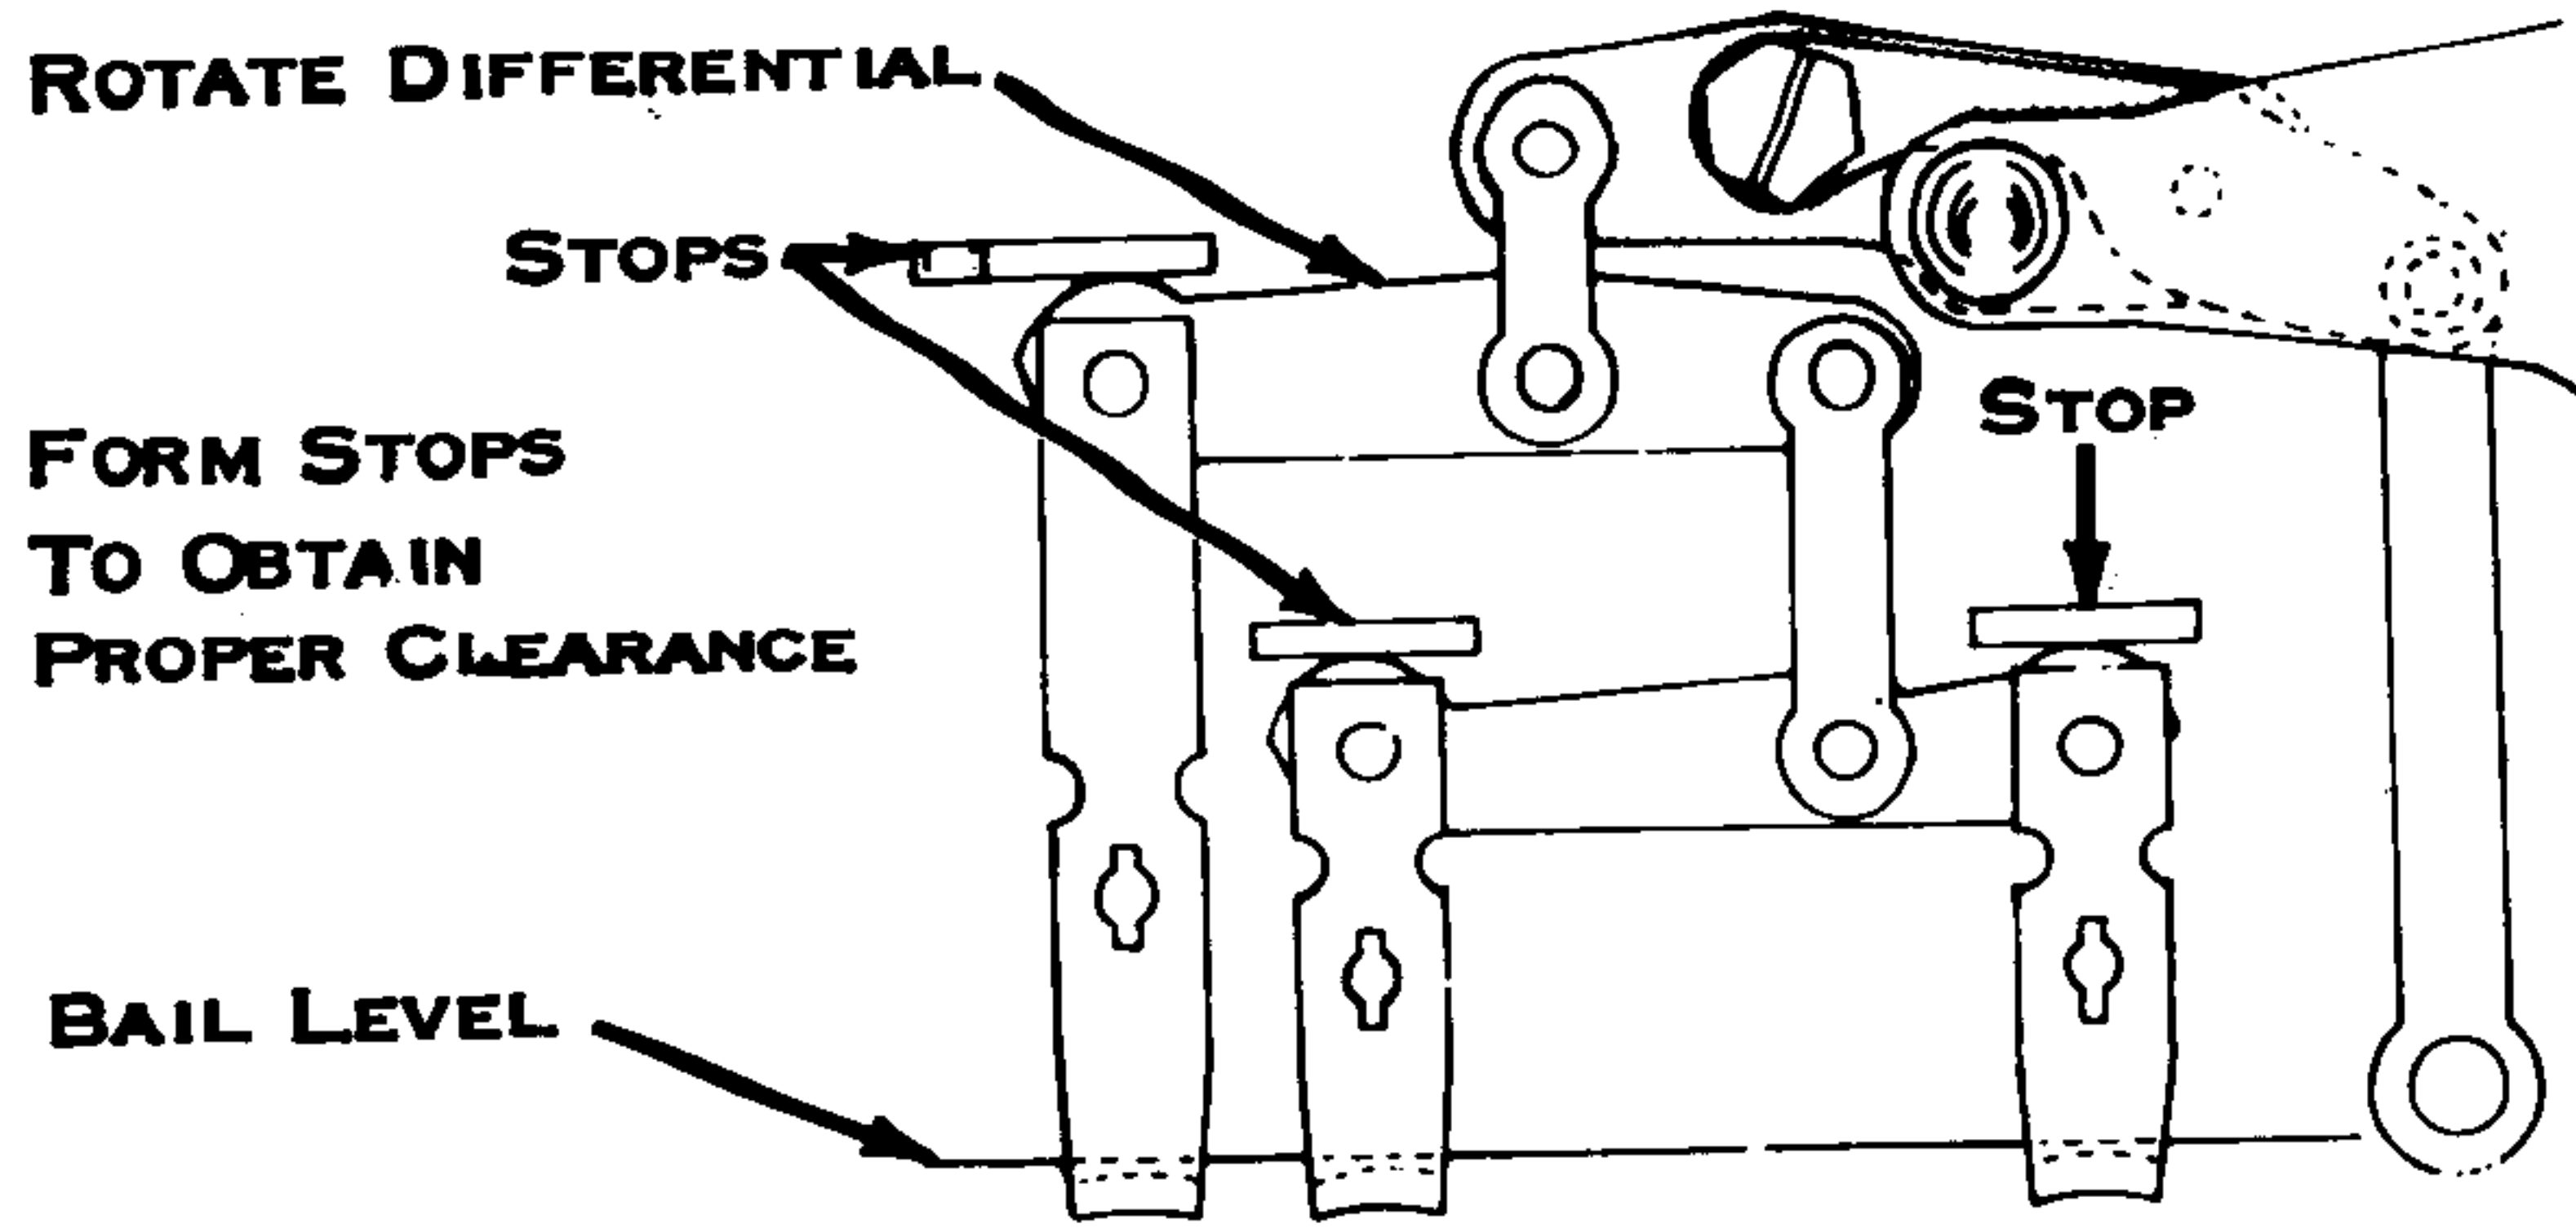

Figure 76. Rotate Latch Clearance
- 2 Positive Rotate Latches (Fig. 76) - The stops of the positive rotate latches should be formed so that the positive rotate latches will reset simultaneously just as the cycle clutch check pawl drops into the tooth of the check ratchet at the rest position.